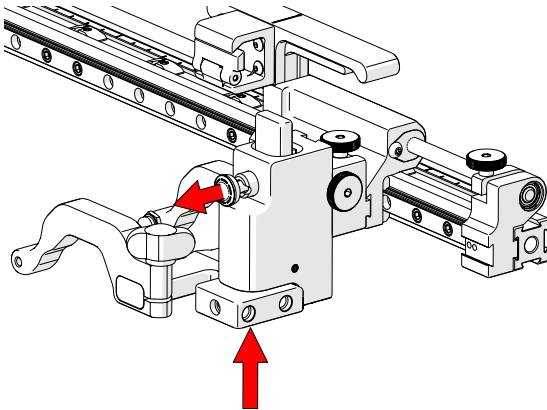
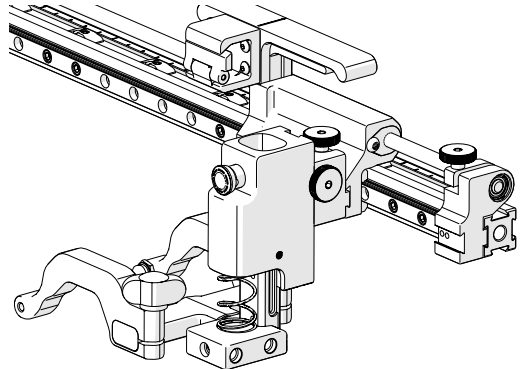

Fig. 52 - Press up and pull latch
Fig. 53 - Lowered toward scan surface
1. Gently lift the heavy duty probe holder and simultaneously pull the latch (Fig. 52). This action will unlock the probe holder. Slowly lower the probe holder towards the scan surface (Fig. 53).